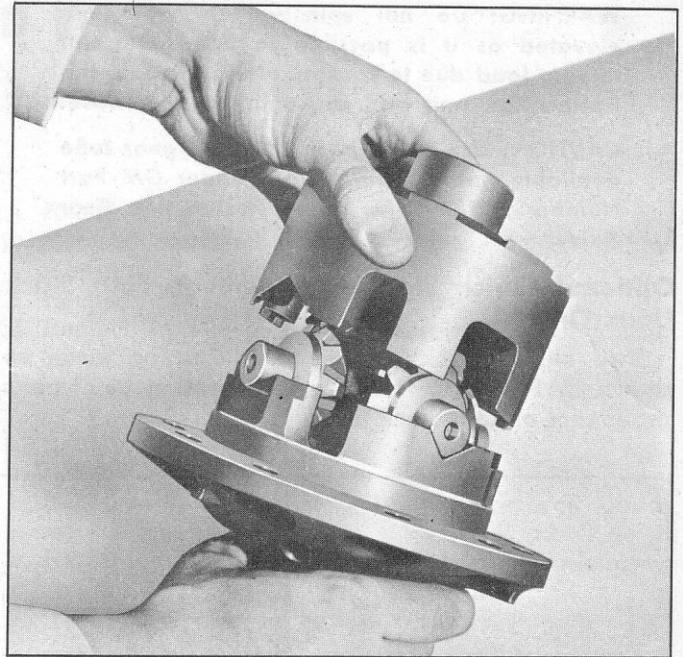

Fig. 42—Installing Differential Case Cover
6. Hold the remaining end case through the bearing trunnion and install it on the ring gear flange half as shown in Fig. 42. Make certain that identification marks are in alignment.